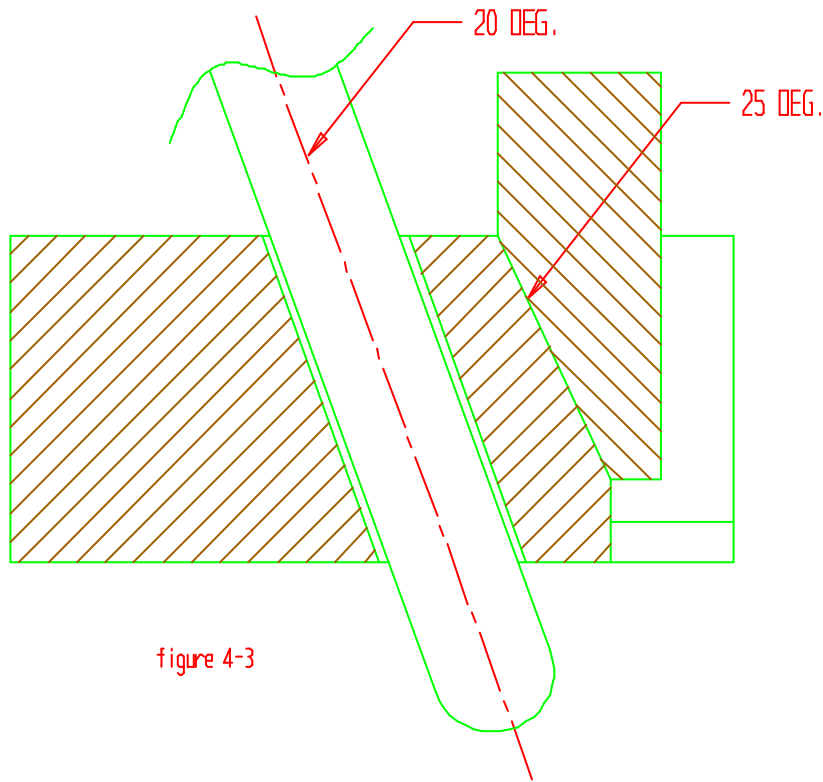

figure 4-3
- 4.3.7 Angle of horn pin to be 3 to 5 degrees less than the locking angle of the heel block. See figure 4-3.